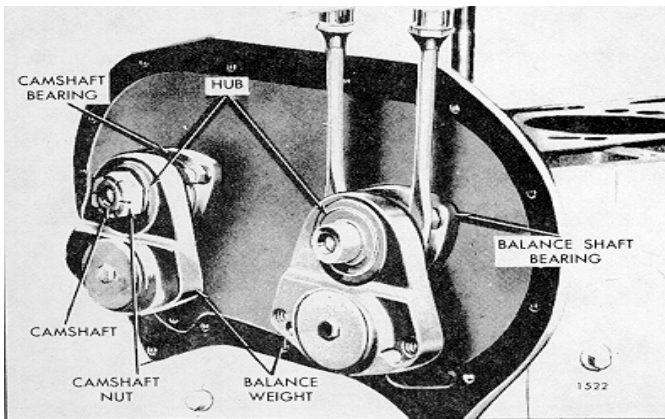

Fig. 4 - Removing Balance Weight Assemblies
4. Force the balance weight off the end of each shaft with two heavy screw drivers or pry bars between the heads of the bearing retaining bolts and the balance weight (Fig. 4).